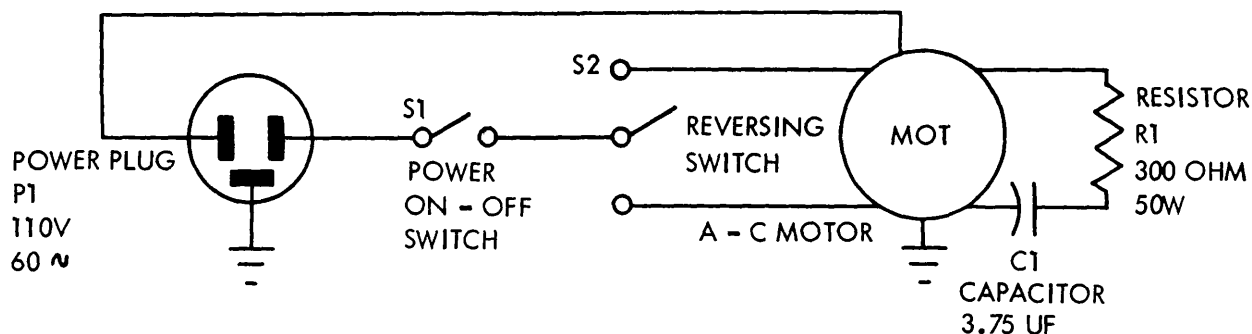

Figure 12. Schematic wiring diagram for Scorsby table assembly.
A power source of 110 volts, 60 cycles ac is required to operate the Scorsby table assembly. See figure 12 for schematic wiring diagram. A separate power source is required for operation of electrically driven gyro instruments which are tested with the unit.
- (1) Check all solder connections for condition and security.
- (2) Check solderless connections on the phenolic terminal board located in the base of the motor assembly for security and condition and security of the crimp-on terminal lugs.
- (3) Check power cable for condition of the insulation and condition and security of terminals.
- (4) Inspect the plug adapter on the end of the power cable for general condition, security and condition of the ground wire and terminals.
- (5) Check all wires generally for condition.
- (6) Inspect the other components such as the switches, capacitor, and resistor for condition and evidence of overheating.
- (7) Use a suitable instrument such as an ohmmeter and check continuity of circuitry in accordance with the schematic wiring diagram (fig. 12).